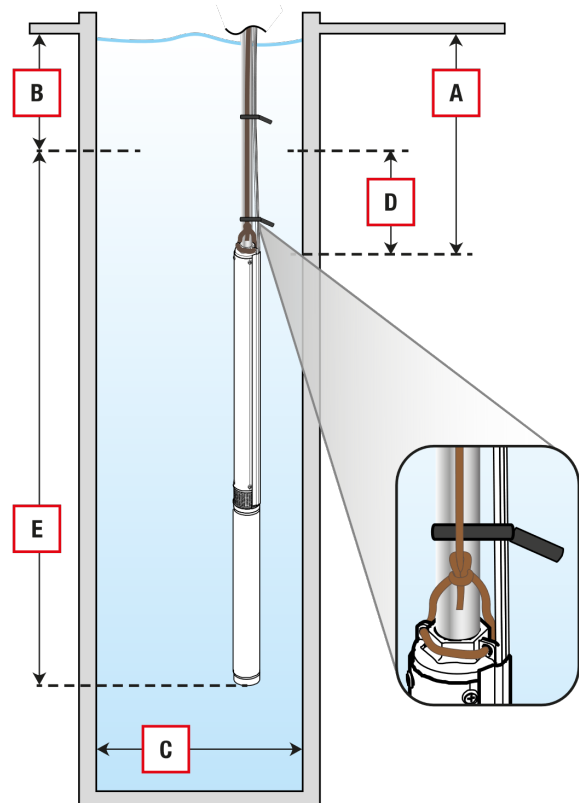

Fig. 5 Installation depth
- When plastic pipe is used, a stainless-steel safety wire is recommended. Fasten the wire to the eyelet on the pump, see fig. 5.
The dynamic water level should always be above the pump, see fig. 5.